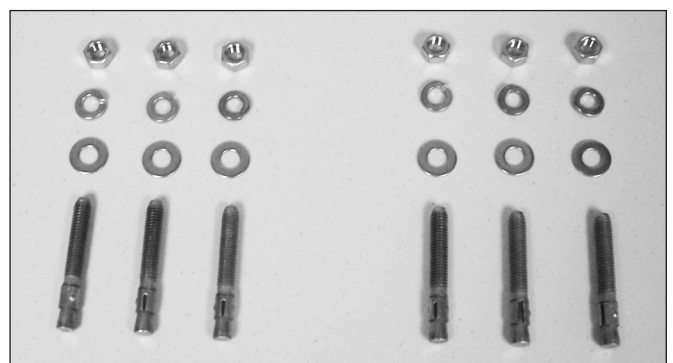

Figure 8
STEP THREE: Use 3/8" wedge anchors supplied in kit WS-DM (as shown in Fig. 8). Gentle tap in all six (6) wedge anchors (3 per hole) and set the poles in place. Using a flat washer, lock washer, then a nut, tighten all six (6) anchor bolts to deck.